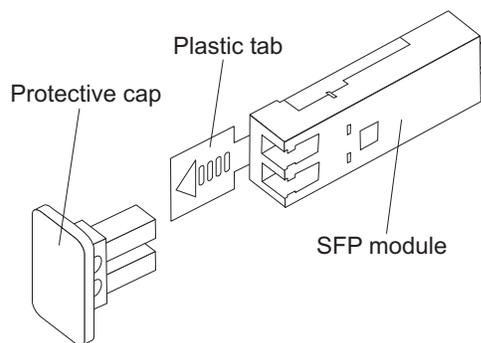

Figure 34. SFP module and protective cap
2. Remove the protective cap from the SFP module, as shown in Figure 34. Save the protective cap for future use.
2. If necessary, remove the protective cap from the SFP module, as shown in Figure 34 on page 52. Save the protective cap for future use.